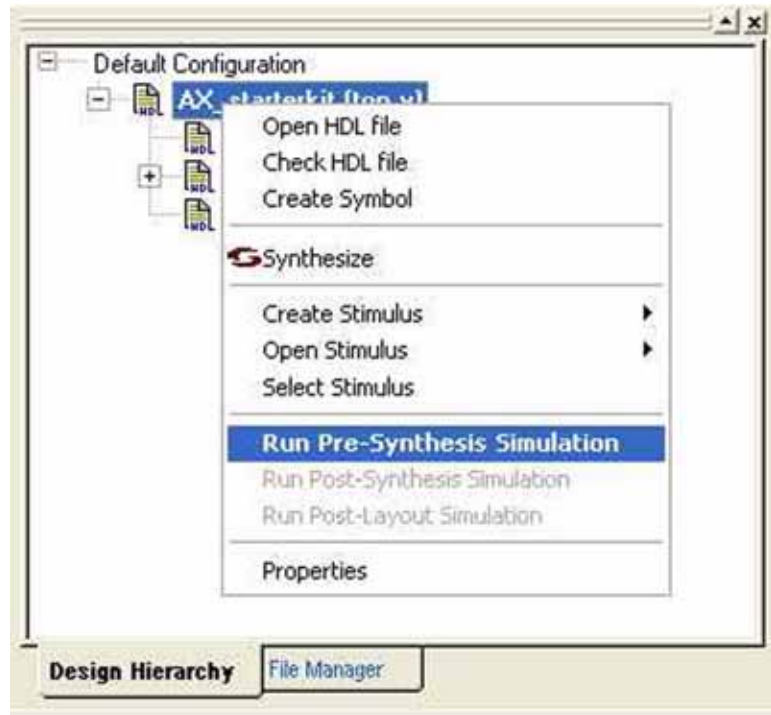

Figure 3-22. Run Pre-Synthesis Simulation
4. Double-click the *ModelSim Simulation* icon in the Libero IDE Process window, or right-click *AX_starterkit* on the Libero IDE Design Hierarchy tabbed page and select *Run Pre-Synthesis Simulation*, as shown in Figure 3-22.